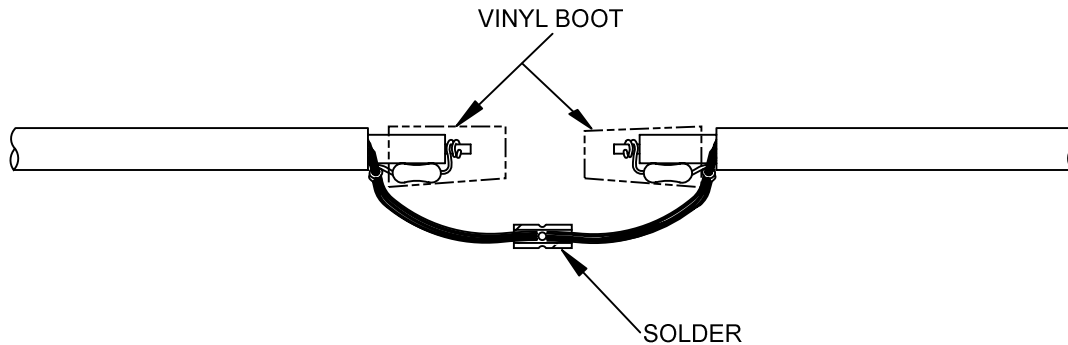

Figure 6.23 – Attaching Connector and Soldering for MTI
- **Step 6:** Insert the ends of the braids into the crimp connector, crimp and solder into place as shown in Figure 6.23. Install vinyl boot to insulate center conductor and resistor from braid.